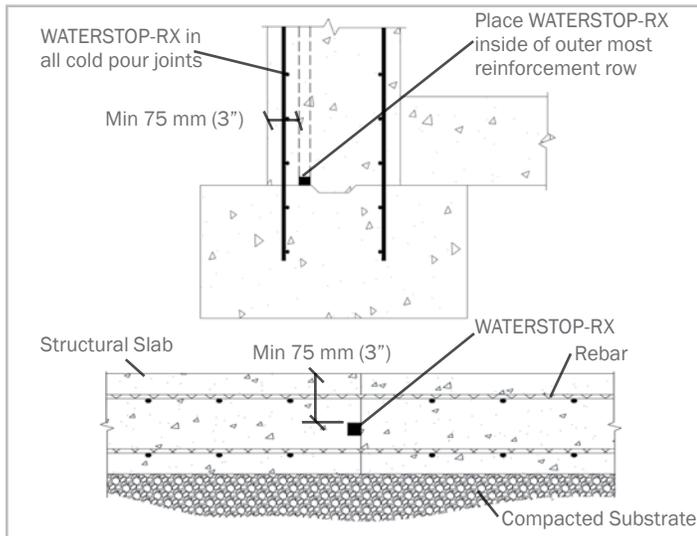
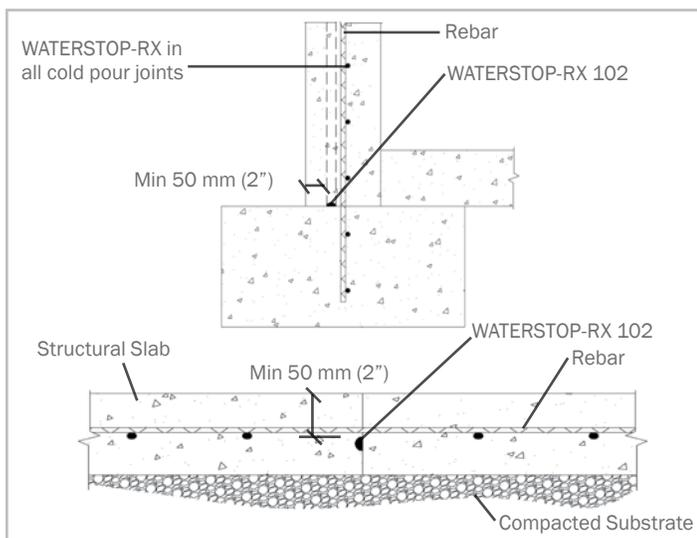

Figure 3.1 – Placement of WATERSTOP-RX 101 & 101T at typical construction joints with required 75 mm (3”) concrete coverage
Figure 3.2 – Placement of WATERSTOP-RX 102 at typical construction joints with required 50 mm (2”) concrete coverage
**WATERSTOP-RX is not designed, nor intended to function as an expansion joint sealant.** RX-101 and RX 101T require a 75 mm (3") minimum concrete coverage to the exterior concrete surface (see Figure 3.1). RX 102 requires a 50 mm (2") minimum concrete coverage to the exterior concrete surface (see Figure 3.2).